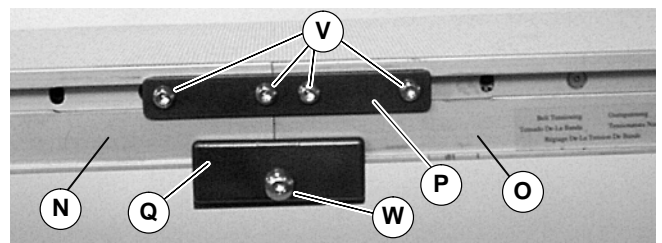

Figure 7
6. Loosen connector strip screws (V) and mounting bracket screws (W) on both sides of the conveyor.
7. Join conveyor sections (N and O of Figure 7). Position mounting bracket (P and Q) across conveyor or sections.